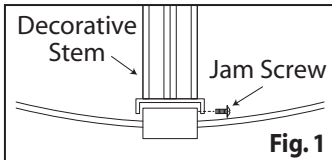

Fig. 1
1. Tighten the decorative stem into the fixture by the side jam screw. (Fig. 1)